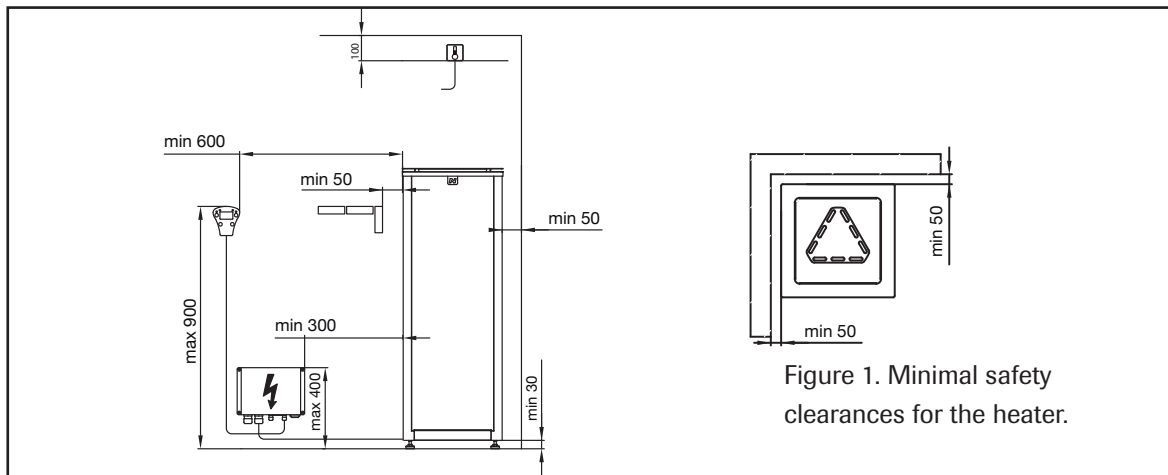

Figure 1. Minimal safety clearances for the heater.
**) See figure 1
- Install control unit as shown in figure 1 and 2.
- Install temperature sensor to the wall, above the sauna heater so it is located 100mm below the ceiling. (see Fig. 1)
- The installation height of the control unit is a maximum of 90 cm and a minimum of 60 cm from the side of the heater (see Fig. 1).